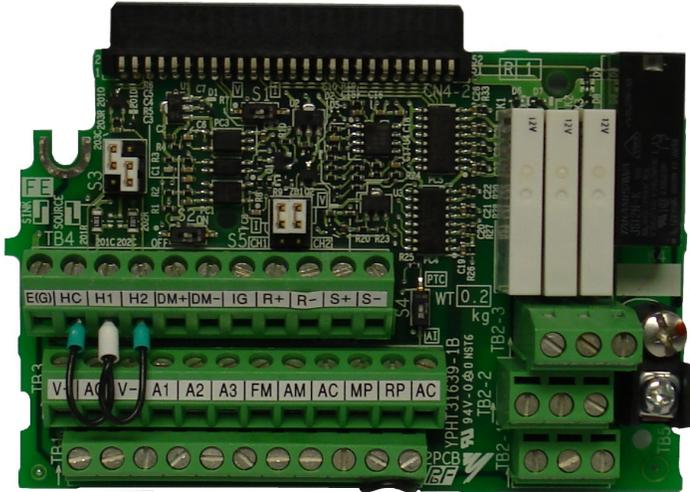

Figure 1: 24 VDC Interface Card
- Verify receipt of the correct model by checking the model number printed on the option nameplate (refer to Figure 1 on page 7 for more information).